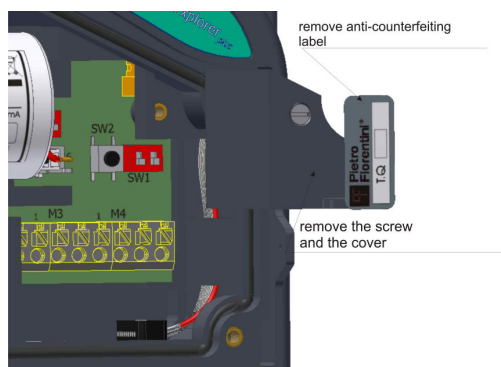

Fig. 17 – Access to SW2 and SW1
- Dip SW1 protected by metrological seal, beside the “program” button (Fig. 17)